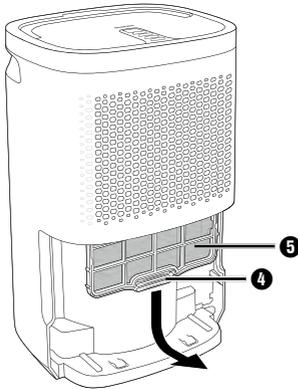

Fig. 4
- ◆ Guide the plastic frame **4** with the air filter **5** inserted past the retaining tabs of the housing and pull it downwards out of the appliance (see figure 4).